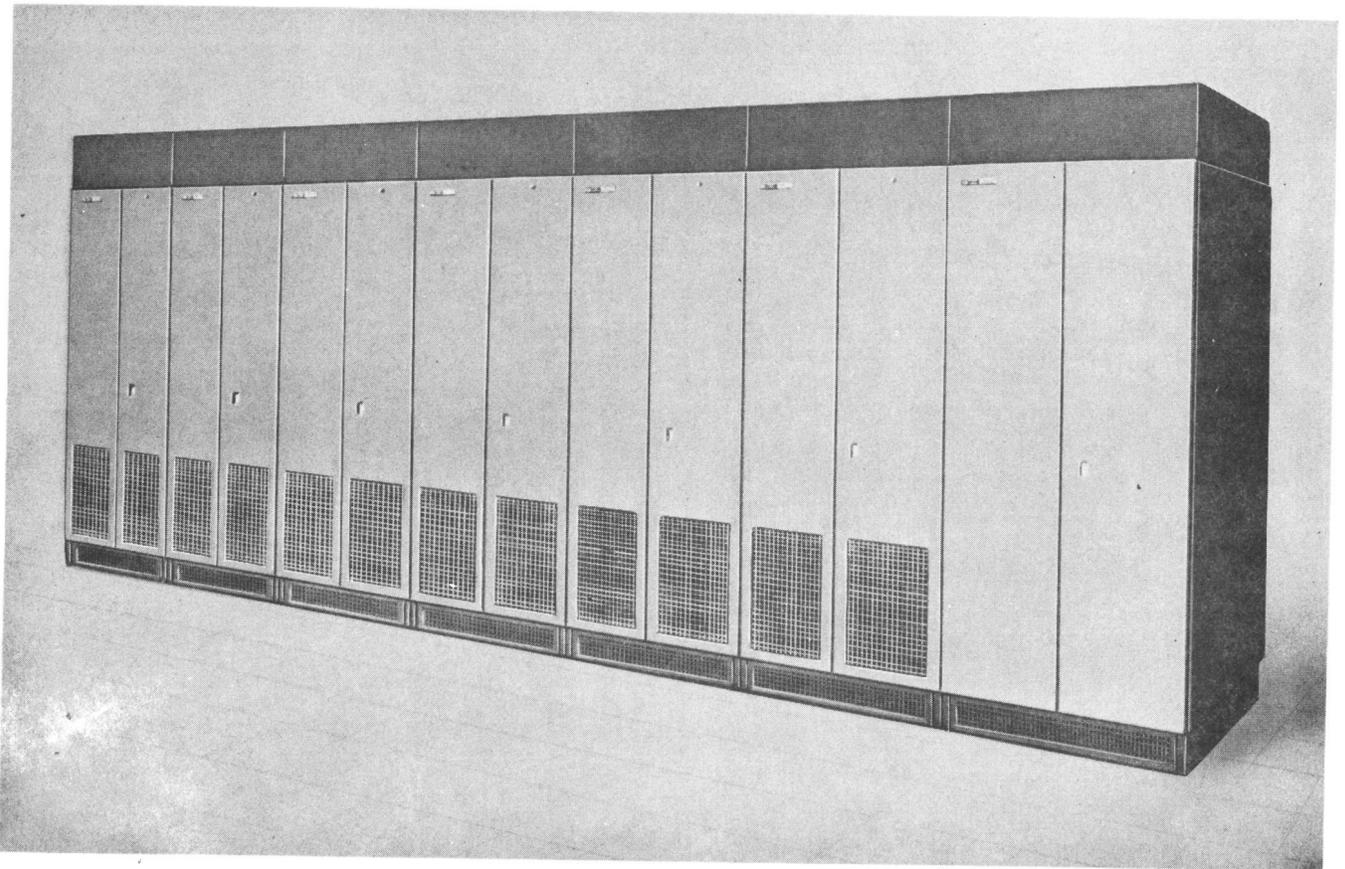

Fig. 1—708A Plant—Charge/Discharge Bays with Control Bay
3.01 Description: The 708A power plant (one control bay, one or more discharge bays, and from one to six charge/discharge bays) provides -130 volt power (option X) or +130 volt power (option Y) for systems requiring up to 1000 amperes. (See Fig. 1 and 2.) The charging units, two to twelve 100-ampere J87224A or B voltage-regulated rectifiers connected in parallel, operate continuously to maintain the main battery (normally 61 cells) at float voltage (2.17 volts per cell) and to supply the plant load. Operation of the OVER CHG switch to the CHG position will increase the output of the rectifiers from a float to an overcharge voltage (2.2 volts per cell) for boost charging. Equal load sharing between rectifiers is not necessary since each rectifier will limit its output current to its